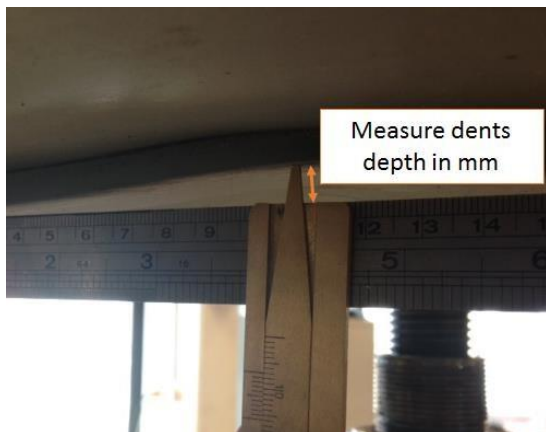

Figure 7 – Measuring the depth of enclosure damage
- a. Several pictures of the damage, taken with a high-resolution camera: If there isn't a visible open hole, crack, or tear, measure the depth of the HV battery enclosure damage (Figure 7) **while wearing proper PPE**. If the damage is not obvious, take an overall picture of the HV battery, with pointers to the damaged area or areas.